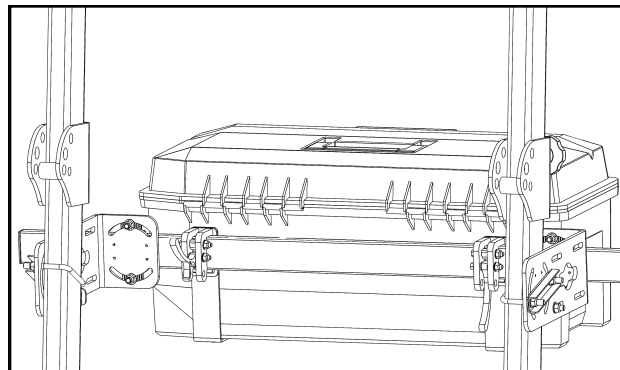

Fig. 1 (attaching a toolbox)
1. Figure 1 shows a toolbox installed onto an Artillian ROPS Mounted Tool Bar.